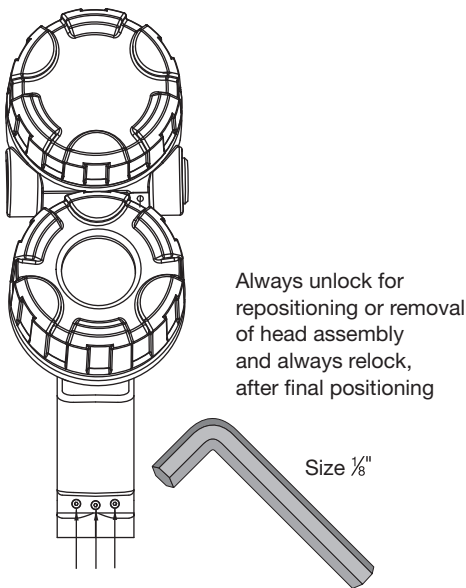

Figure 7
4. Loosen the transmitter head lock screws (socket type) and position conduit outlet in the desired direction. See Figure 7.
3. Loosen the transmitter head lock screws (socket type) and position conduit outlet in the desired direction. See Figure 7.